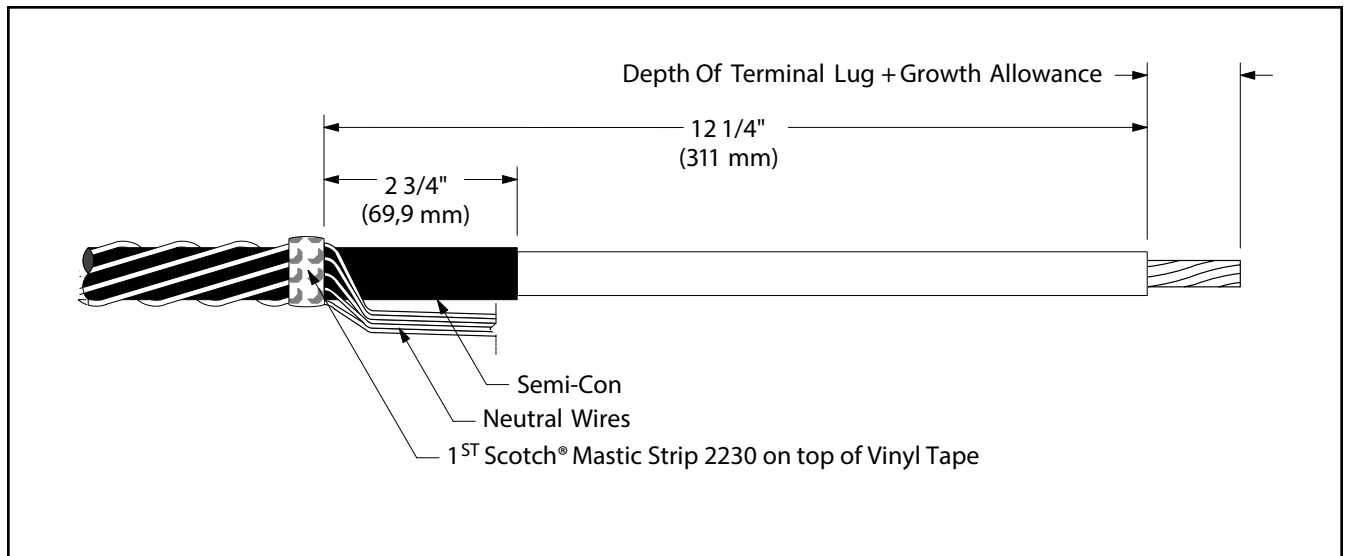

Figure 7
- 6.3 Prepare cable using dimensions shown in Figure 7. **BE SURE TO ALLOW FOR DEPTH OF TERMINAL LUG.**
- 6.4 Secure neutral wires to cable with several highly stretched layers of electrical grade vinyl tape around the cable and neutral wires 2 3/4" (69,9 mm) from cut edge of cable semi-con (Figure 7).
- 6.5 Select a Scotch® Mastic Strip 2230 from kit and remove white release liners. Using light tension, apply a **SINGLE WRAP** of mastic around the cable and neutral wires 2 3/4" (69,9 mm) from cut edge of cable semi-con, directly on top of vinyl tape (Figure 7). Cut off excess.